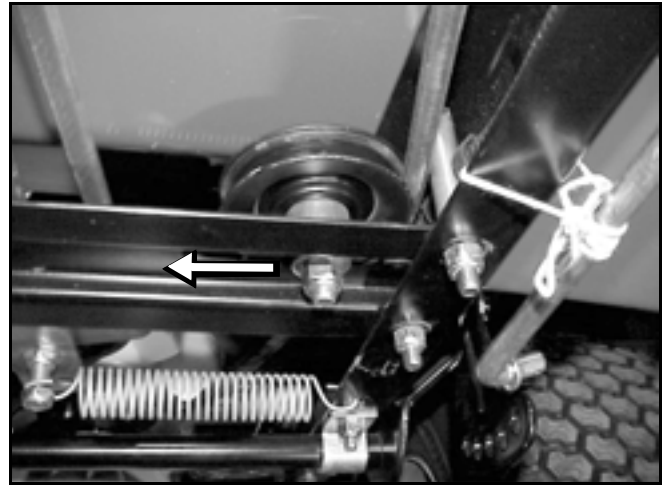

Figure 146
7. Loosen the left side idler pulley and slide the assembly toward the center of the tractor away from the frame (Figure 146). Remove the belt from the engine and transaxle pulleys.